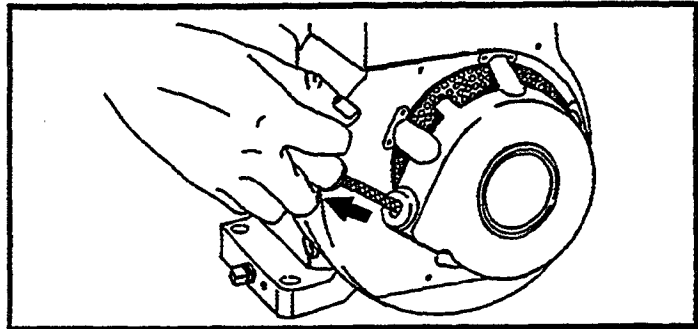

FIGURE 8
3. Grasp starter grip and pull slowly until starter engages. Then pull cord rapidly to overcome compression, prevent kickback, and start engine. Repeat if necessary with **CHOKE** opened slightly (See Figure 8).